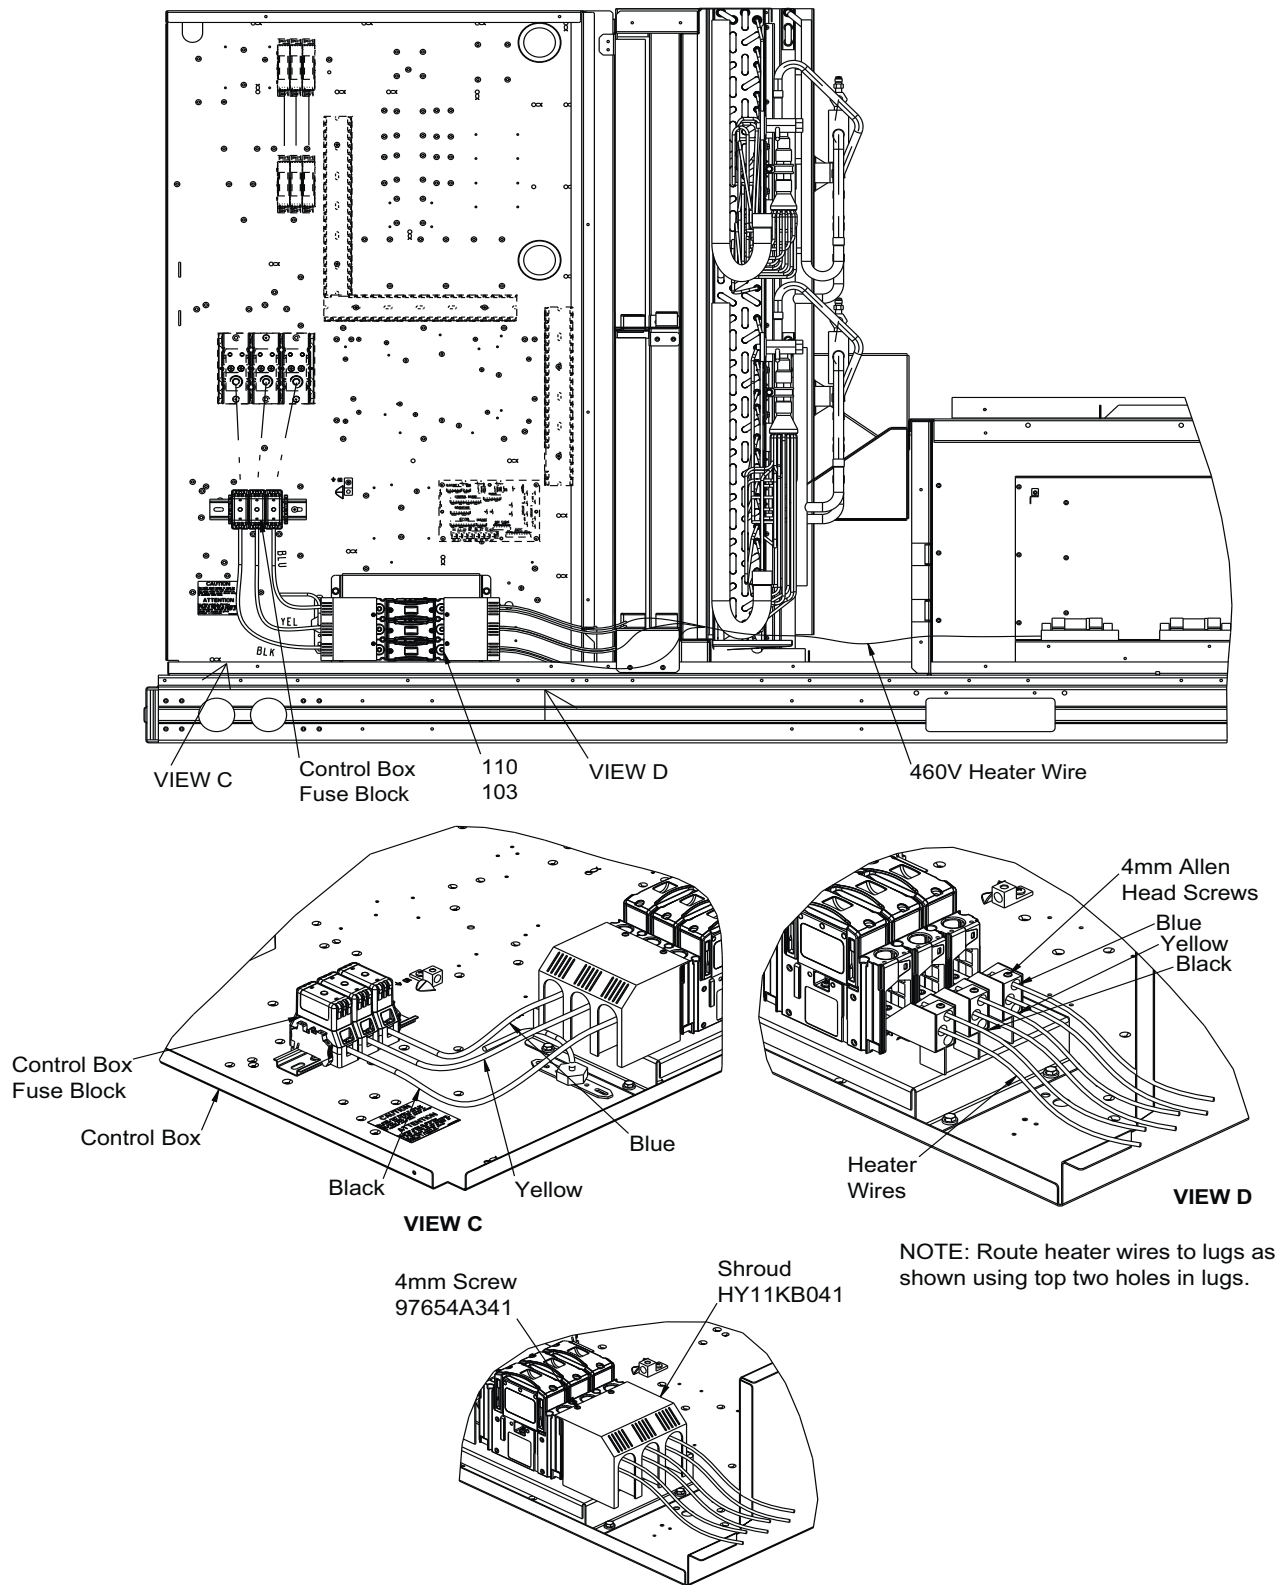

Fig. 44 — 460V Single Point Power Assembly Location (High SCCR)
1. Remove shroud screws and shroud. Install fuse block assembly in location shown in Fig. 44.